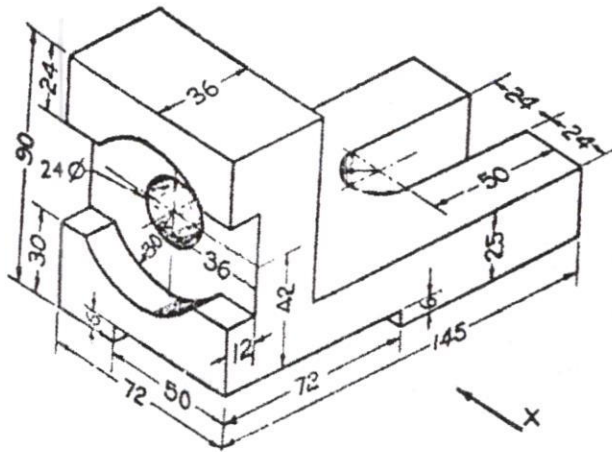

Fig. 1
6. Draw the sectional front view of the component shown in Fig. 1